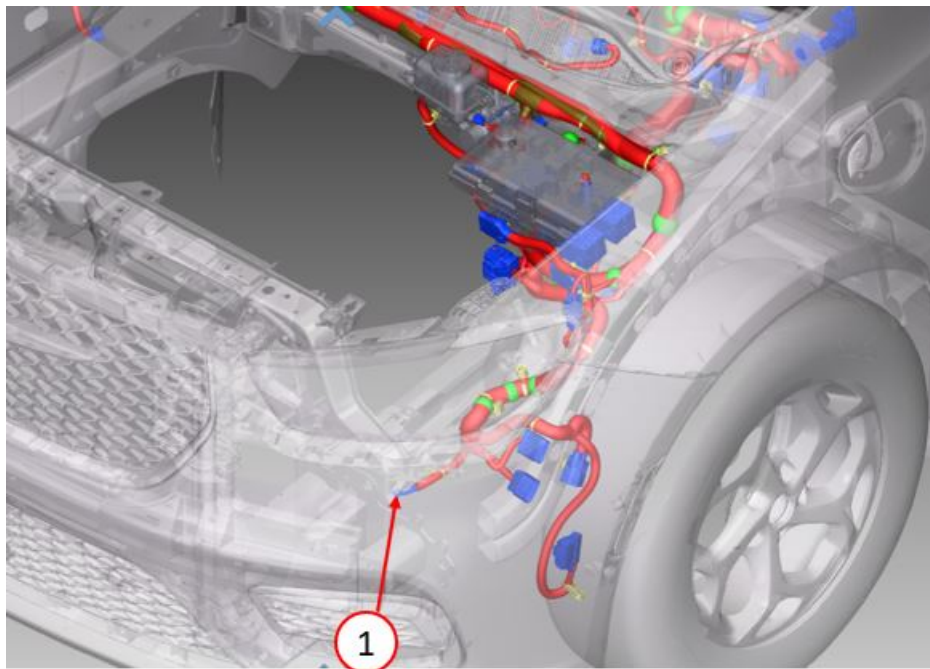

Fig. 1
4. Locate G917A and disconnect the ground from the chassis and the gray harness retainer (Fig. 1) .